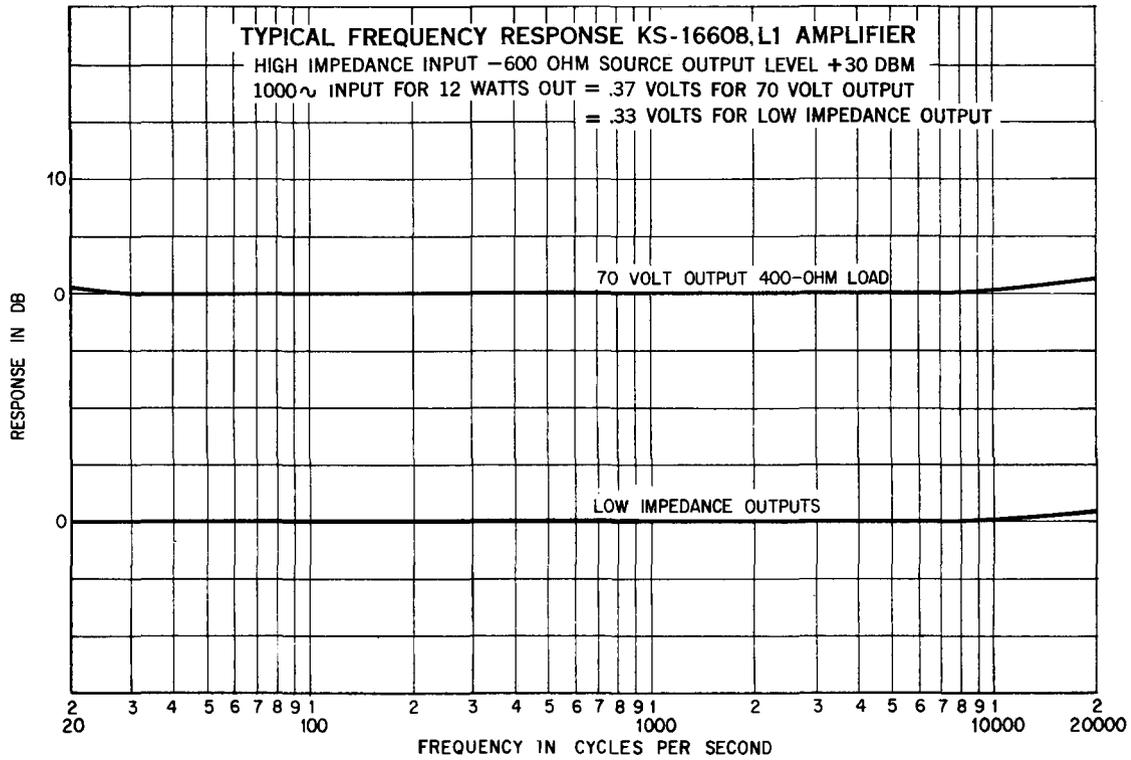

Fig. 4 - Frequency Response - High Impedance Input
6.01 Fig. 4 shows the frequency response of the KS-16608, L1 Amplifier. The response of the low impedance outputs is combined into one curve since they are almost identical.